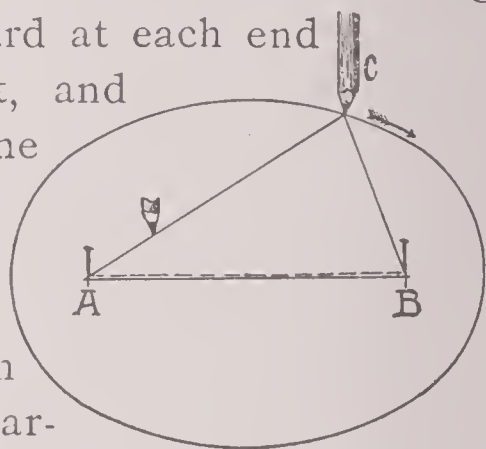

Fig. 23
23. To draw an ellipse, the major axis and distance between the *foci* being given (Fig. 23):